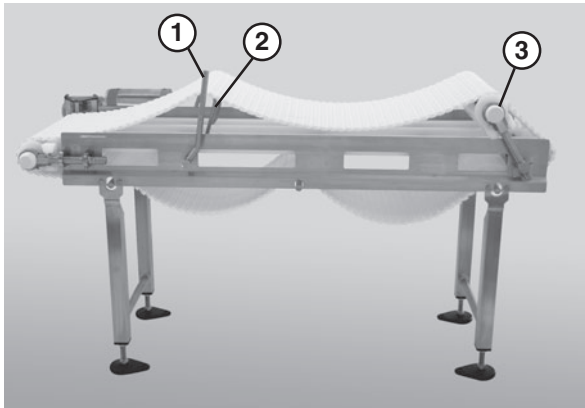

Figure 43
2. Use the lifter handle (**Figure 43, item 1**) to raise the lifters (**Figure 43, item 2**) and raise the tip up tail (**Figure 43, item 3**).